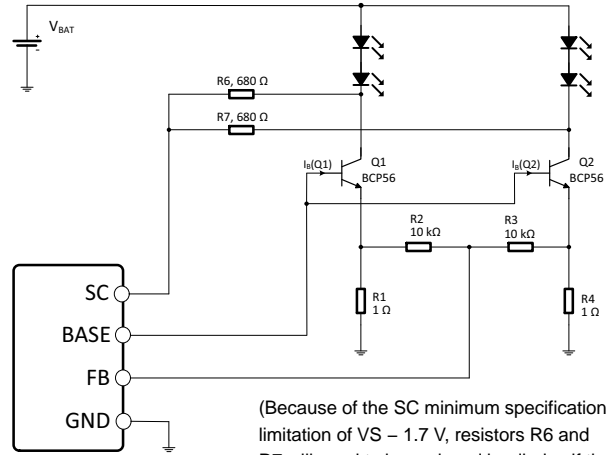
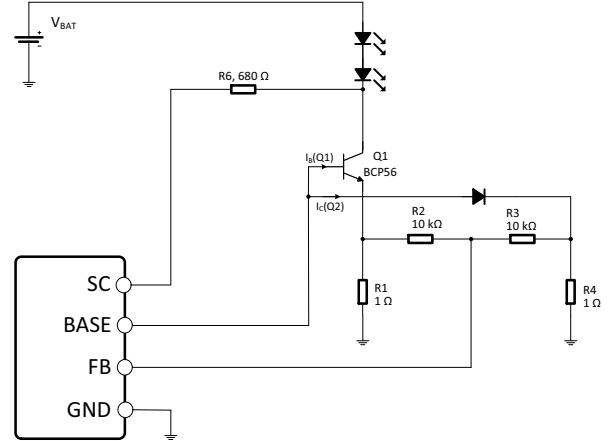

Figure 17. Driving Multiple Strings
Figure 19. Open Circuit Equivalent
Figure 17 along with Figure 18 and Figure 19 highlight the use of the NCV7692 device with multiple strings connected to a common drive BASE pin and using external resistors to tie additional strings to a common feedback point (FB). The FB pin will maintain regulation with the FB pin at 152 mV.
It shows the change in BASE drive which occurs with an open circuit in one of the strings. The drive current out of BASE changes from  $(I_b(Q1) + I_b(Q2))$  to  $(I_b(Q1) + I_c(Q2))$  as regulation will try to maintain in the loop to get 152 mV on FB. Figure 19 shows the equivalent circuit when an open load occurs.